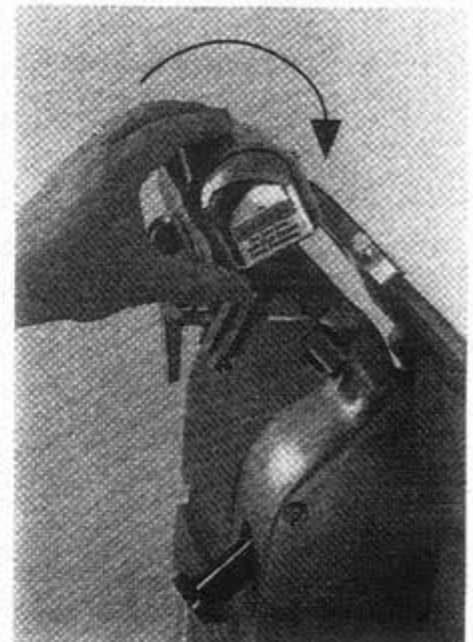

Figure 21-3
6. Close sharpener cover. (Fig. 21-3)